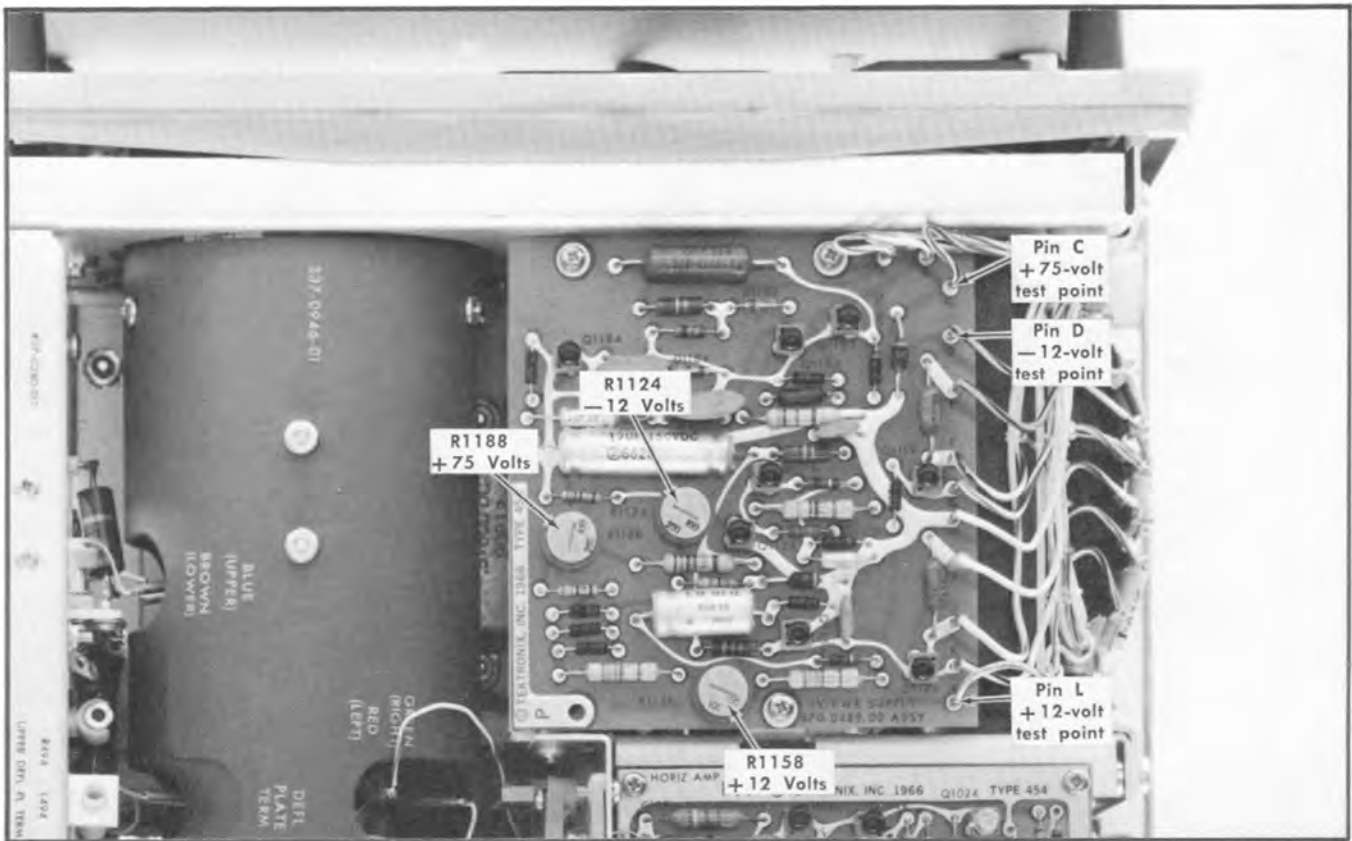

Fig. 6-4. Low-voltage power supply test points and adjustments (Low-Voltage Regulator circuit board).
- b. Connect the precision DC voltmeter from the —12-volt test point (pin connector 'D', Low-Voltage Regulator board; see Fig. 6-4) to chassis ground.
- d. ADJUST— —12 Volts adjustment, R1124 (see Fig. 6-4), for —12 volts.
- d. ADJUST—+12 Volts adjustment, R1158 (see Fig. 6-4), for +1 volt.
- f. Connect the precision DC voltmeter from the +12-volt test point (pin connector 'L', Low-Voltage Regulator board; see Fig. 6-4) to chassis ground.
3. Adjust +75-Volt Power Supply ❶
- a. Connect the precision DC voltmeter from the +75-volt test point (pin connector 'C', Low-Voltage Regulator board; see Fig. 6-4) to chassis ground.
- c. ADJUST—+75 Volts adjustment, R1188 (see Fig. 6-4), for +75 volts.